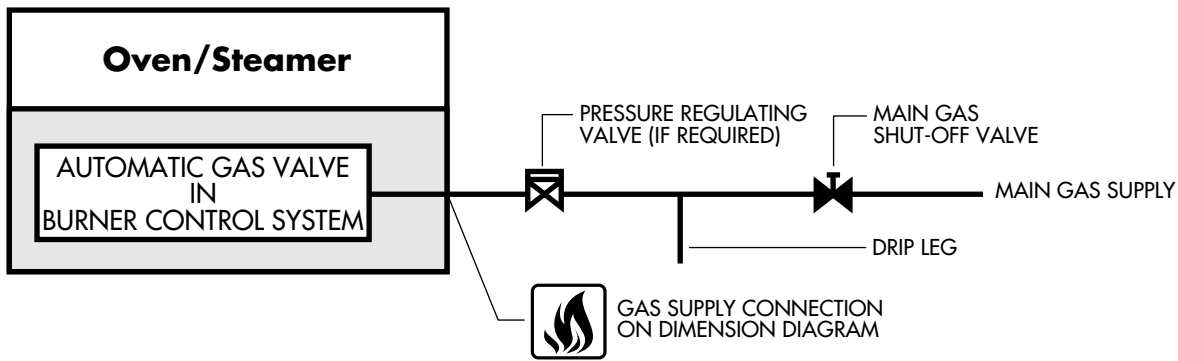

Figure 2-8. Recommended Gas Supply Line Layout
Refer to Figure 2-8 for recommended layout of the gas supply lines.
- 2- Refer to Figure 2-8, and set-up the Oven/Steamer automatic gas valve according to the test pressure being used. The same pressure criteria apply when testing lines prior to the manual gas shut-off valve.
- 3- Refer to Figure 2-8, and open the main shut-off valve for the oven/steamer gas supply line.